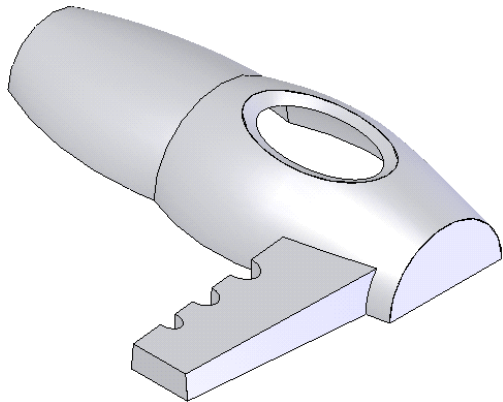
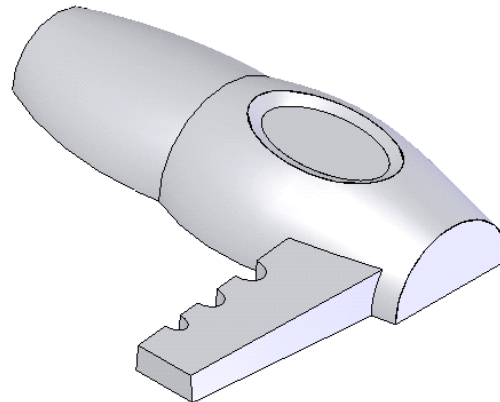

Figure 15-137 Model after trimming the surface
Figure 15-138 Planar surface
9. Using the **Trim Surface** tool, trim the base surface using the newly created lofted surface. The model, after trimming the surface, is displayed in Figure 15-137. Next, using the **Planar Surface** tool, create a planar surface as shown in Figure 15-138.